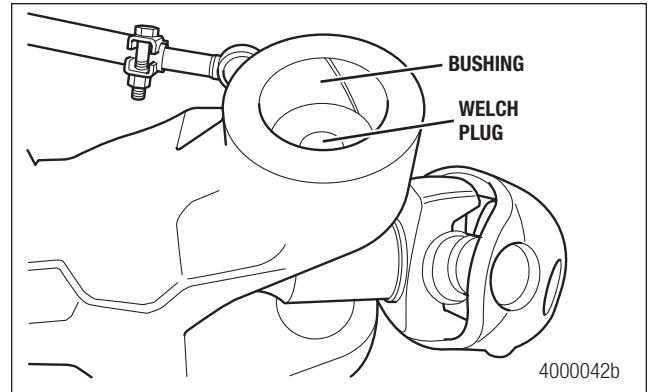

Figure 5.31
6. Inspect the upper and lower bushings for wear or damage while they're still in the housing sockets. Figure 5.31. Use the following procedure to remove worn or damaged bushings.